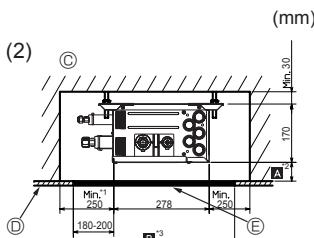
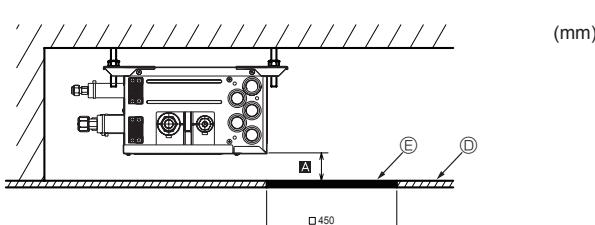
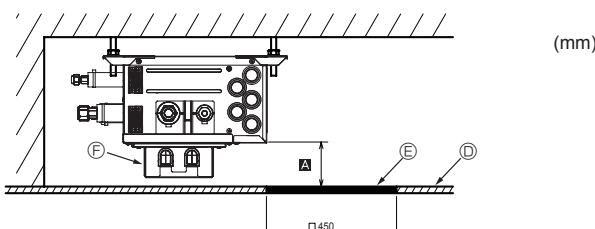

Fig. 4-7
Fig. 4-8
Fig. 4-9
(2) Side View (Fig. 4-7, Fig. 4-8, Fig. 4-9)
To install the optional Reactor Box, set Ⓐ to Min. 270 mm <recommendation> (Fig. 4-9).
In the case of “□ 450 mm”, prepare a maintenance hole at a PCB side (as it is shown in Fig. 4-8, Fig. 4-9), and “Min. 300 mm” is needed as distance Ⓑ.